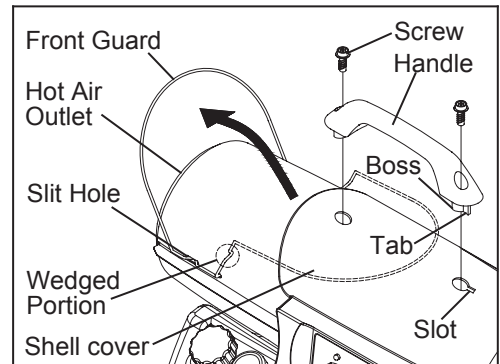

Figure 6. Handle Assembly
A. For IH75000 Model only (See Figures 6, 7.)
- 2) Align boss on bottom of handle with the 2 holes on the shell cover as shown in Figure 6